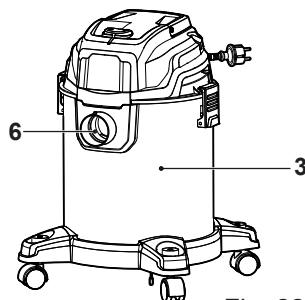

Fig. 22
- > During wet vacuuming, check the water level in the tank regularly. The water level should be below the air inlet (6) (Fig. 22). Empty the tank (3) regularly if large quantities of water are vacuumed.